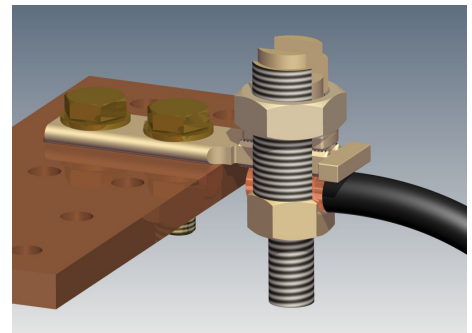

Figure 1
- a) For terminations with the pad, secure with 3/8 inch hardware. Install hardware to a torque of 228 in-lbs (19 ft-lbs) for the best connection. (See figures 1 & 2.)